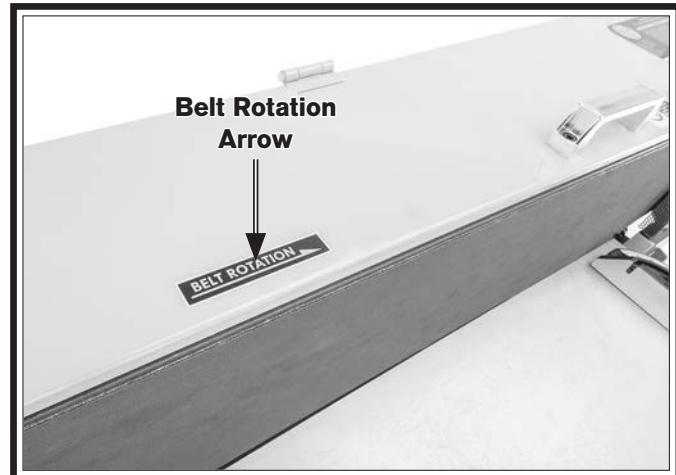

Figure 31. Sanding belt rotation arrow.
6. Remove old sanding belt and replace with new one, being sure arrows on belt match arrows of belt rotation on machine (see **Figure 31**).